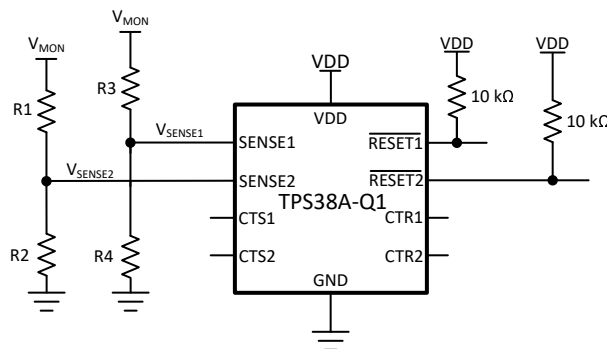

图 8-10. Adjustable Voltage Threshold with External Resistor Dividers
For example, consider a 12 V rail being monitored V_{MON} for undervoltage (UV) using channel 1 of the TPS38A010122DSKRQ1 variant. Using 方程式 7 and shown in 图 8-10, R_1 is the top resistor of the resistor divider that is between V_{MON} and V_{SENSE2} , R_2 is the bottom resistor that is between V_{SENSE2} and GND, V_{MON} is the voltage rail that is being monitored and V_{SENSE2} is the input threshold voltage. The monitored UV threshold, denoted as V_{MON-} , where the device will assert a reset signal occurs when $V_{SENSE2} = V_{IT-(UV)}$ or, for this example, $V_{MON-} = 10.8V$ which is 90% from 12 V. Using 方程式 7 and assuming $R_2 = 10k\Omega$, R_1 can be calculated shown in 方程式 8 where I_{R1} is represented in 方程式 9: